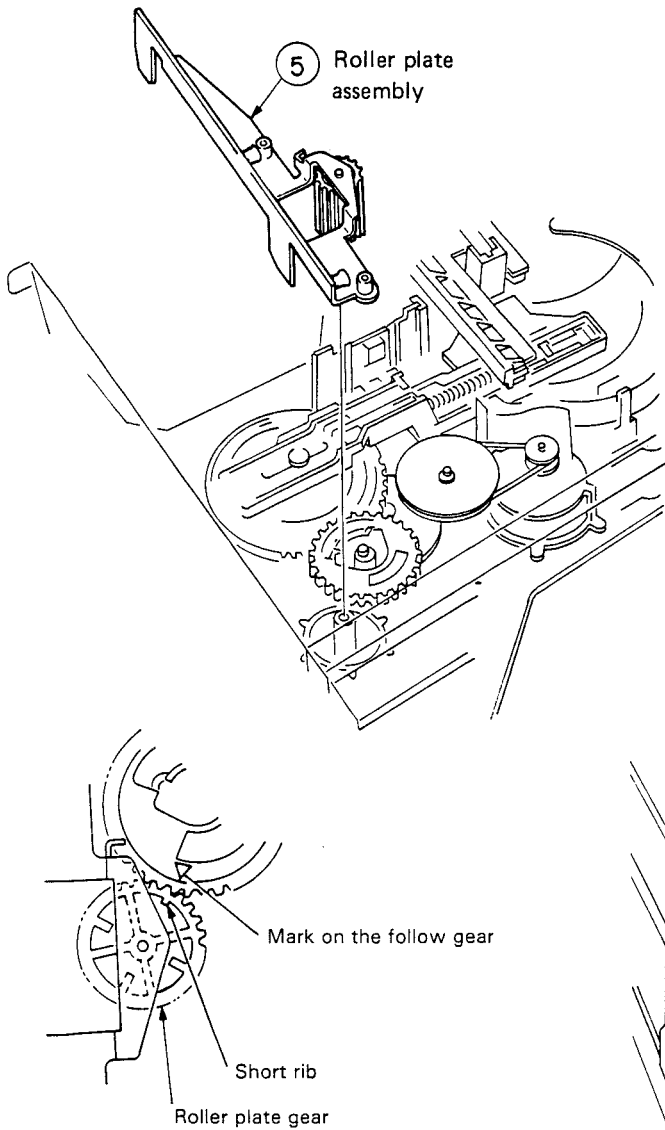

Fig. 7-13
- ⑤ Mount the roller plate assembly in the position where the tooth with the triangle mark of the follow gear is engaged with the dip of the gear with the short rib on the roller plate gear, as shown in Fig. 7-13.